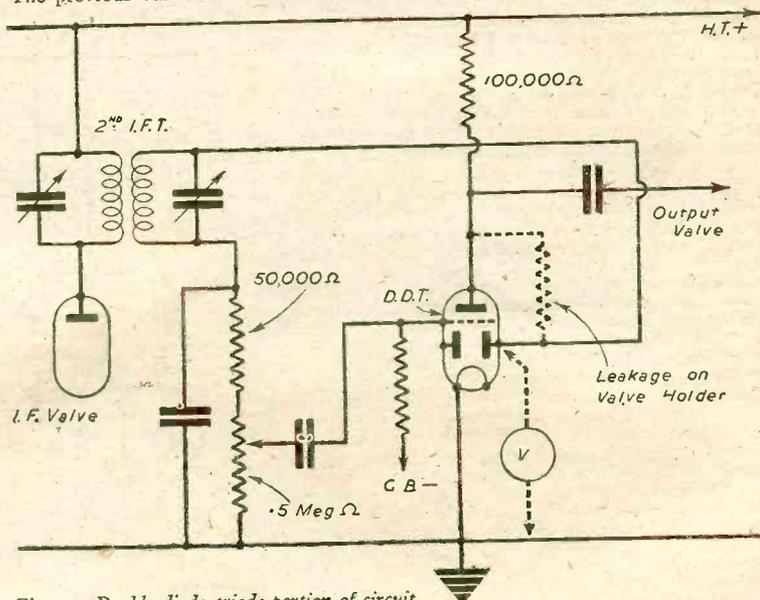

Fig. 4.—Double-diode triode portion of circuit.
The symptoms encountered here with this particular four-valve battery superhet were similar to those experienced in the last example, that is to say no signals, but loud background noises. After a careful check-round it was found that there was a small positive voltage (V) on the detector diode pin of the double-diode-triode valveholder even with the valve removed. A leakage between the primary and secondary windings (Fig. 4) on the second I.F. transformer would cause a potential divider to be formed across the H.T. supply. This would be composed of the leakage between the windings, the 50,000 ohm I.F. stopper resistor, and the 5 megohm variable diode-load. The insulation between the two windings was found O.K.